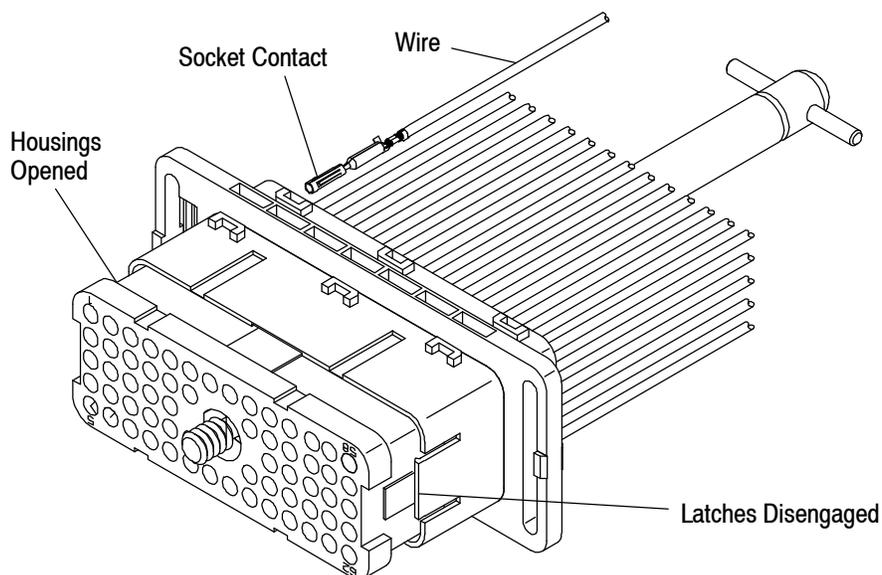

Figure 8
2. To remove a contact, grasp the wire directly behind the insulation barrel and pull the wire with a twisting motion until the contact disengages from the housing. Repeat for other contacts. See Figure 8.